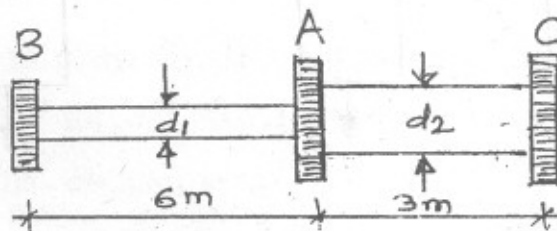

Fig. 4
7. (a) A 75 kW motor is driving a line shaft through gear 'A' at 26.5 r.p.m. Bevel gear at B and C drives cement mixtures. If the power requirement of mixer driven by gear B is 25 kW and that of C is 50 kW, what are the required shaft diameters d_1 and d_2 . If the allowable shearing stress in the shaft is 40 MPa, (Refer Fig. 4). [9]